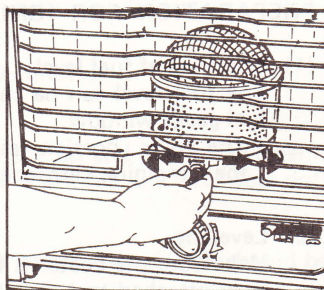

Fig. 9
- (4) Use Burner handle to swing the Burner for 2 – 3 times, to make sure that Burner is properly seated after lighting. (Fig. 9)
- (5) When re-ignition is performed immediately after extinguishing, crude fuel can cause an intense smell. Wait 5 minutes for cooling the Burner before re-ignition.